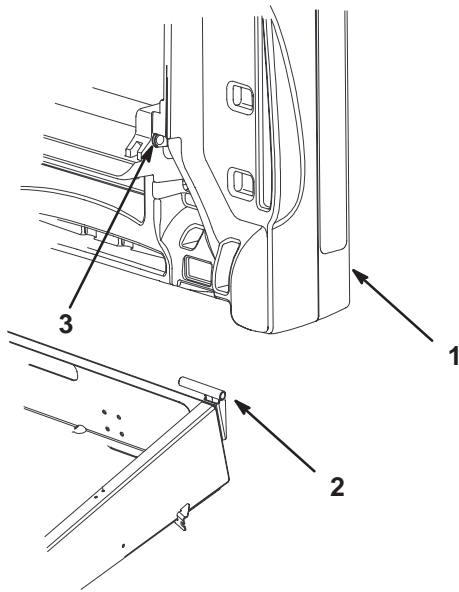

Figure 9
3. Slide the cargo box mounting hole onto the pivot bracket (Fig. 9).